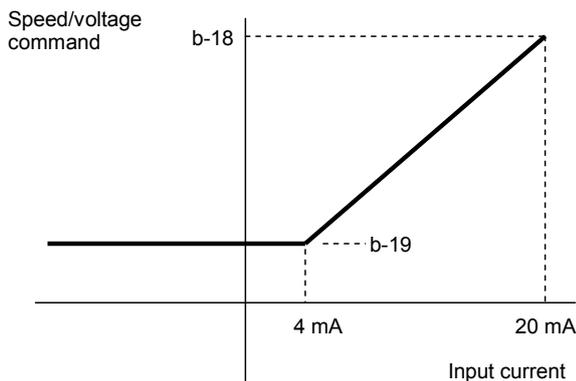
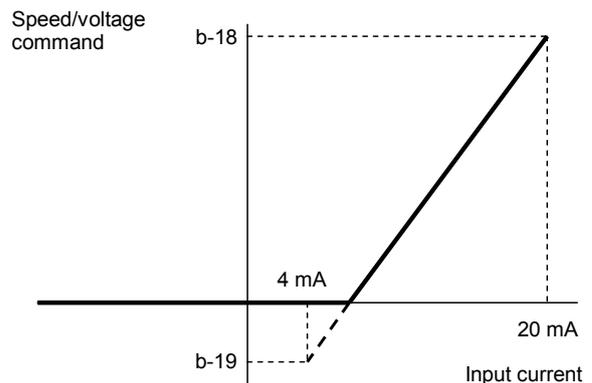

Figure 3-1 When 4 to 20 mA is selected
Figure 3-2 When 4 to 20 mA is selected
3. When the analog input (1) characteristics selection is 4 to 20 mA input (b-17 = 2)
When 4 mA is input, the characteristics are the setting of the analog input (1) speed/voltage lower limit (b-19). When 20 mA is input, the characteristics are the setting of the analog input (1) speed/voltage upper limit (b-18) (Figure 3-1). However, those are effective for positive currents only. When a negative current is input, it is limited to the analog input (1) speed/voltage lower limit (b-19) (or 0 when a negative value is set to the analog input (1) speed/voltage lower limit (b-19)) (Figure 3-2).